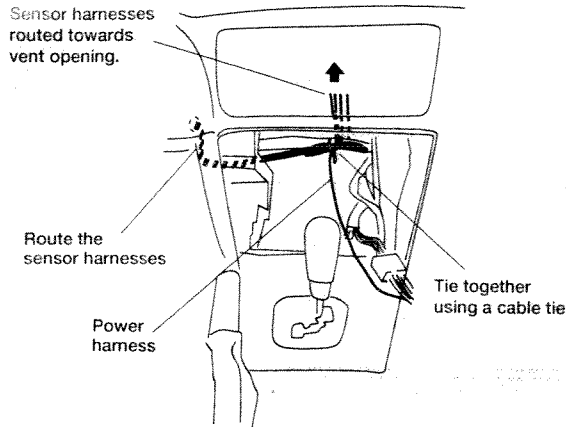

Figure 6-2
3. Tie the sensor harnesses previously routed from the engine compartment together with the vehicle wiring using a cable tie (1 location). Run these harnesses through the mounting hole of the air vent grille together with the power harness installed in Step 2. Gather all loose harnesses nearby and bind them together. (Figure 6-2) Route the harnesses from the engine compartment area up towards the air vent grille. Make sure harnesses do not come in contact with any moving parts. (i.e. pedals, heater controls.) Remove tape which was temporarily placed on harnesses.